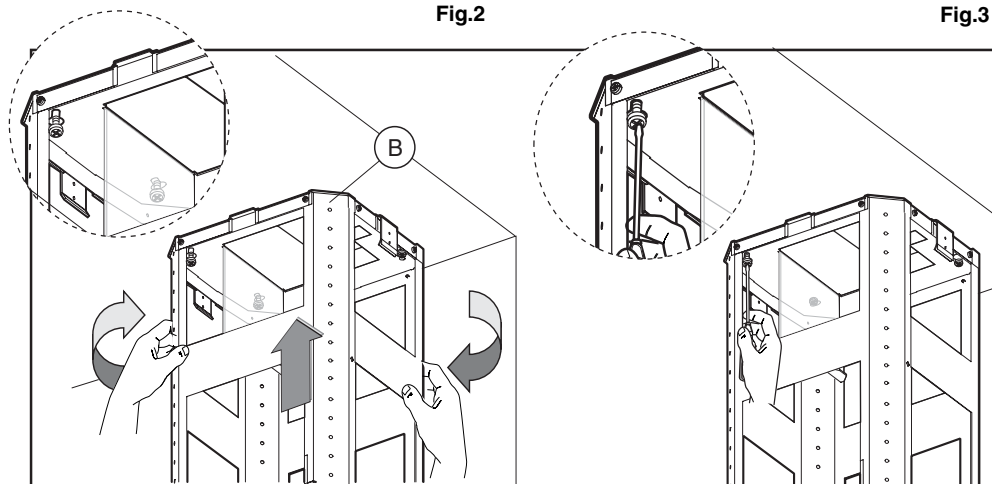

Fig.4
- Take the upper part of the structure **B** (fig.4) and insert the 3 slots onto the 3 screws that are not completely tightened.
Rotate slightly to fit (fig.4) .